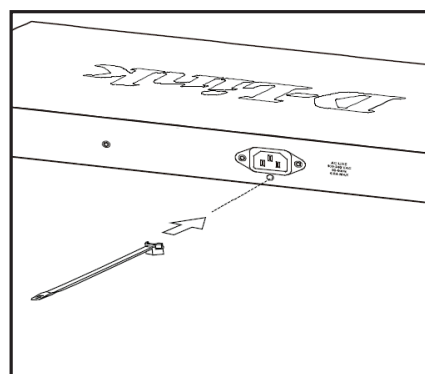

Figure 7. Insert the Tie
1. With the rough side facing down, insert the tie into the hole below the power socket as shown in **Figure 7**.